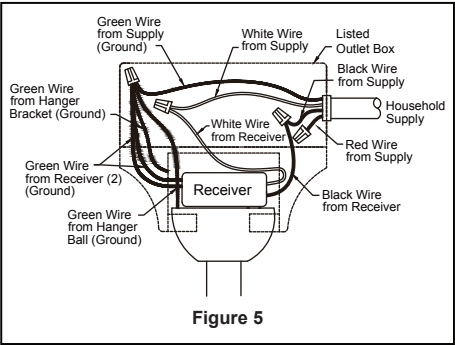

Figure 5
- ☐ 5. Thread downrod into the downrod support on top of the motor. Install the clevis pin by aligning the holes in the downrod support with holes in the downrod. Secure clevis pin with hairpin clip. Tighten the two set screws with nuts in the downrod support. Securely tighten the set screws with screwdriver then fully tighten the nuts by hex wrench. (Figure 5)
4. After connections have been made, put the white and green leads to one side and the black leads towards the other side, the connection should be turned upward and carefully push leads into the outlet box. The wires should be spread apart with the grounded conductor and the equipment-grounding conductor on one side of the outlet box and the ungrounded conductor on the other side. (Figure 5)
- ☐ 5. Assemble the LED assembly to the switch housing assembly using the two key slots. Replace the removed screw from Step 3 and secure all three screws. (Figure 5)
- ☐ 5. To set the remote code in the same positions as the receiver, use a small screwdriver or ball point pen (neither included) to slide dip switches firmly up or down. (Figure 5)